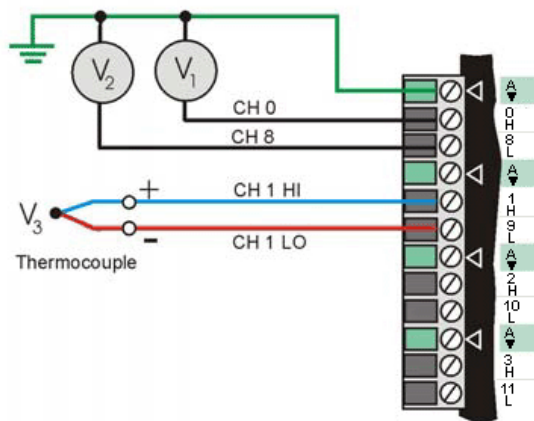

Figure 1. Single-ended voltage connections (V1 and V2) and differential thermocouple connections (V3)
- Connect voltage signals as single-ended or differential connections (see Figure 1).
- Connect thermocouple signals as differential connections (see Figure 1). The negative (typically, the red) thermocouple wire connects to the channel's LO connector, and the other color wire connects to the channel's HI connector.